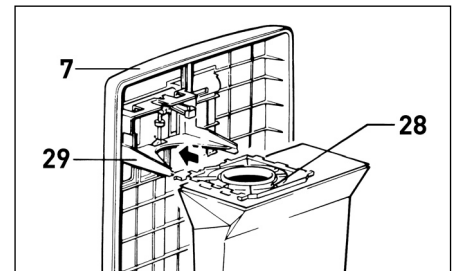

Figure 10
## Changing the Filter Bag - Figure 10
2. Bag not inserted properly	2. Reinsert bag with cover release flap (5) up, until firmly latched in bag holder (see pg. 10 figure 10).